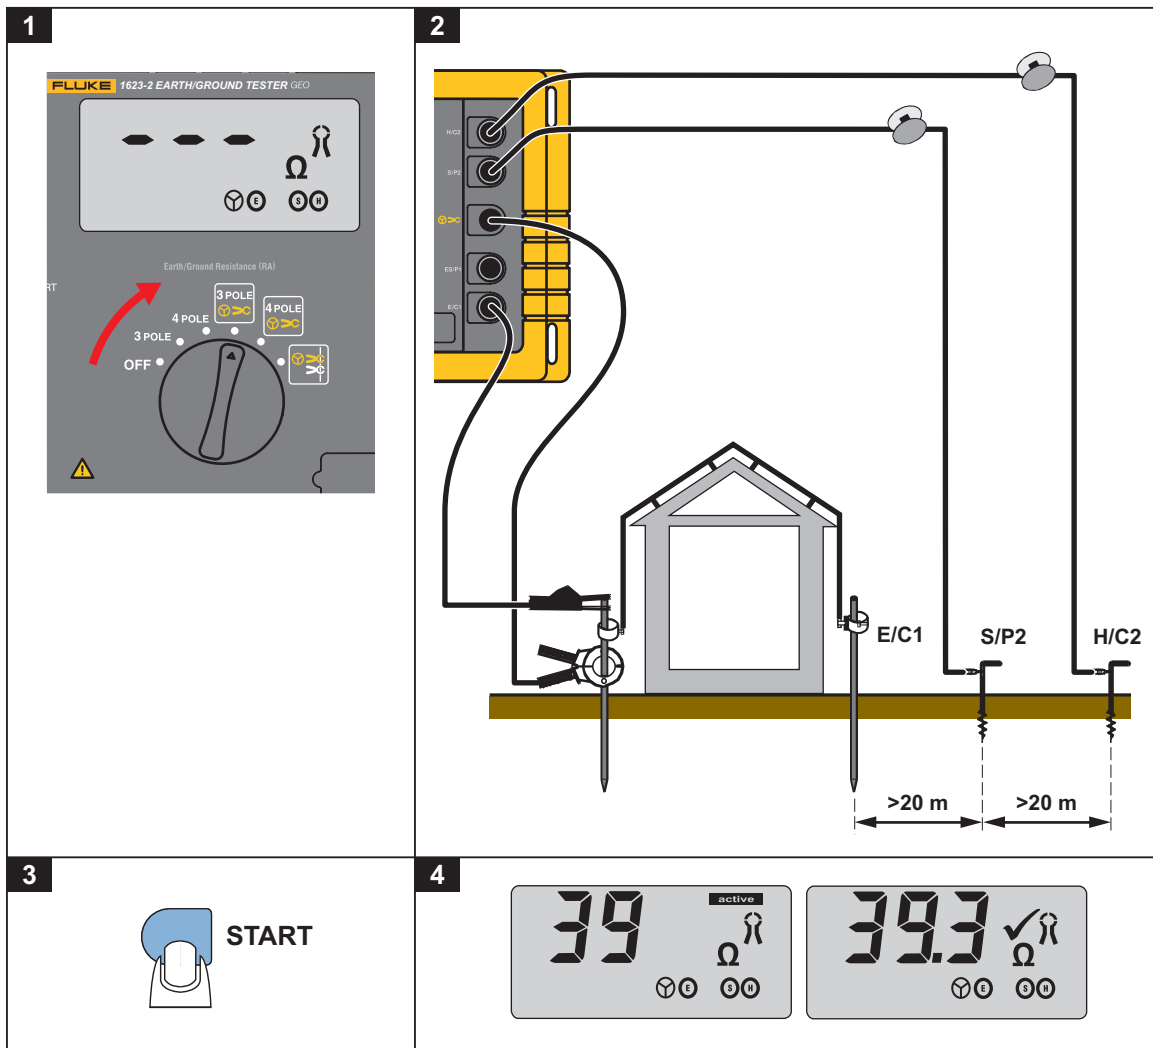

Figure 6. R_A 3-Pole Selective Earth Resistance Measurement with Current Clamp
1. Select **3 POLE**  . See Figure 6.